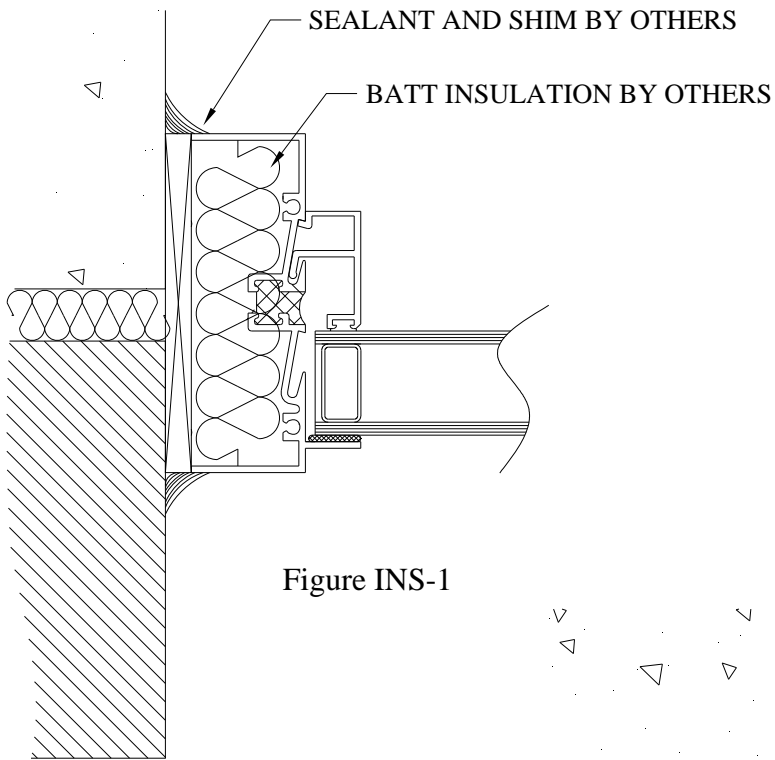

Figure INS-1
- K. For jobs with a head receptor, field cut to length and install the head receptor closure tight to the opening condition. Peerless Products suggests installing batting insulation into any installation cavity prior to sealing off window opening (See Figure INS-1 and INS-2 below).